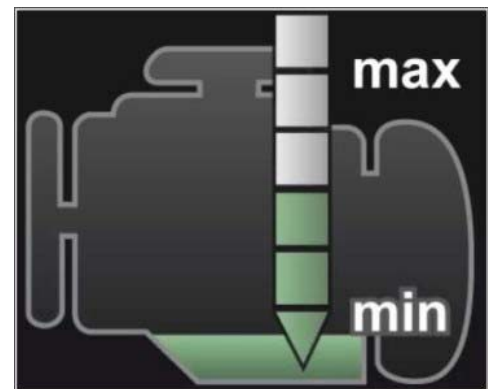

Figure 1
- 2 **Only** if the engine-oil level that is read off the oil level display in the instrument cluster as shown in ⇒ *Figure 1* is **at least two segments below the MAX marking**: Measure the engine-oil level as described in ⇒ *Workshop Manual '170117 Draining and filling engine oil (changing engine oil)'* using the **PIWIS Tester** and add engine oil according to the specifications on the PIWIS Tester (invoicing: Scope 2).